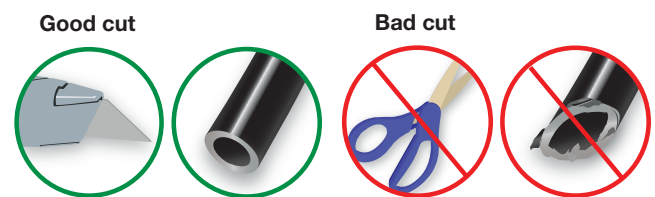

Fig. 39
2. Cut the air line in half. Make clean, square cuts with a razor blade or hose cutter (Fig. 39). Do not use scissors or wire cutters.